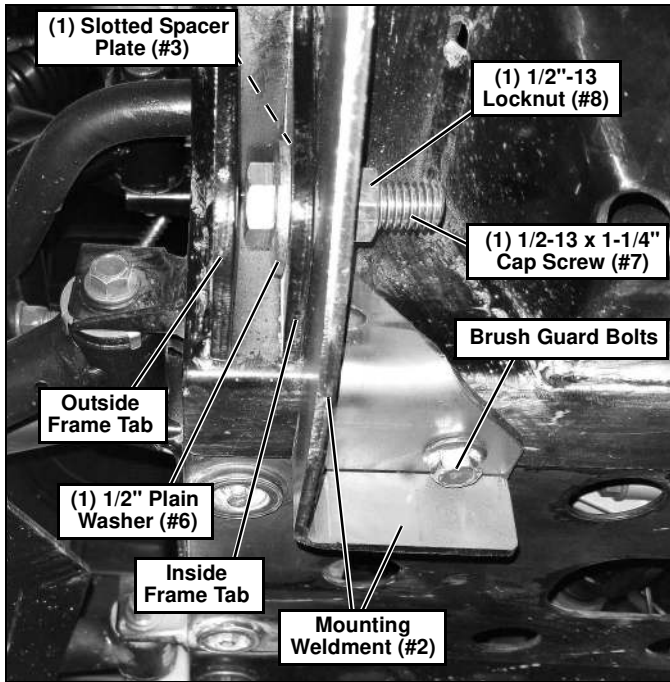
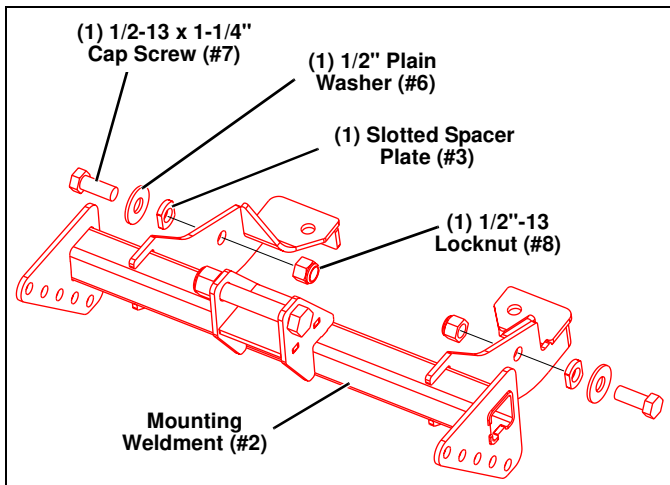

Figure 3 - Passenger Side Shown
Figure 4
- Align the back holes of the Mounting Weldment (#2) with the holes exposed from step 1. Insert the lower Brush Guard bolts back in place. (See Figure 3.)
- Fit a Slotted Spacer Plate (#3) into the inside Passenger Side frame tab. Insert a 1/2" Plain Washer (#6) between the outside and inside frame tabs to align with the hole of the Slotted Spacer Plate (#3). Insert a 1/2"-13 x 1-1/4" Cap Screw (#7) through the slot of the outside frame tab, then the 1/2" Plain Washer (#6), Slotted Spacer Plate (#3), and Mounting Weldment (#2). Fasten the cap screw with (1) 1/2"-13 Locknut (#8). (See Figure 3 and Figure 4.)